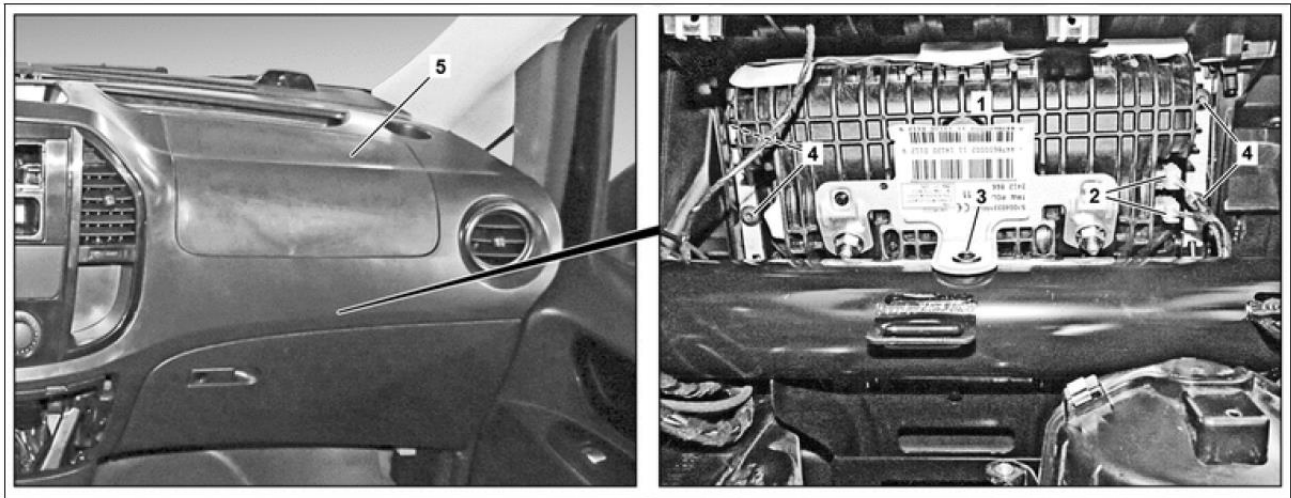
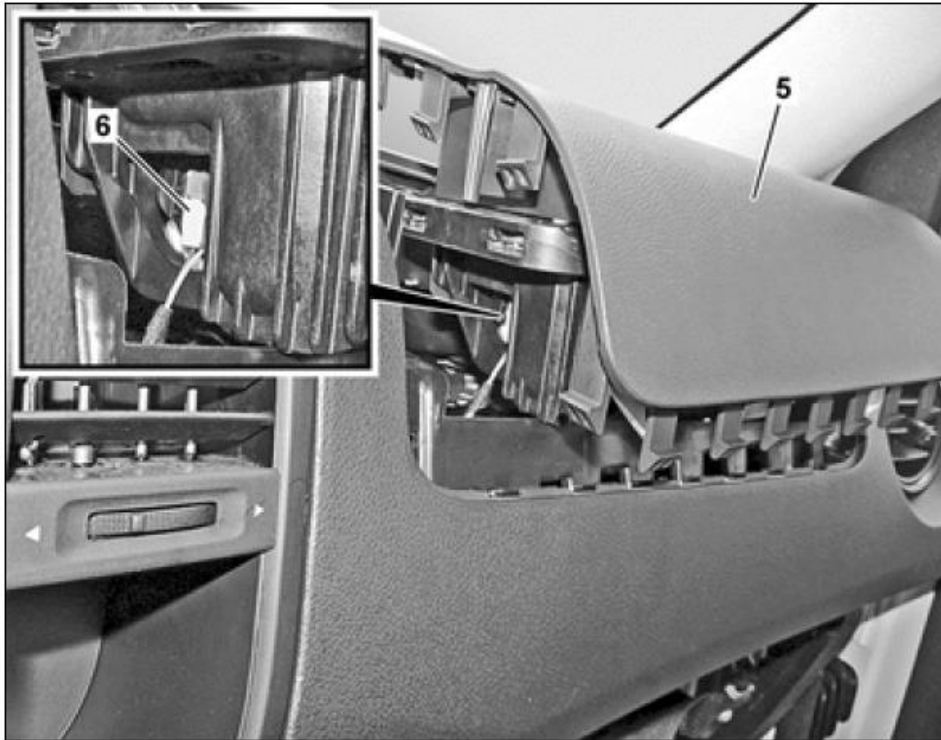
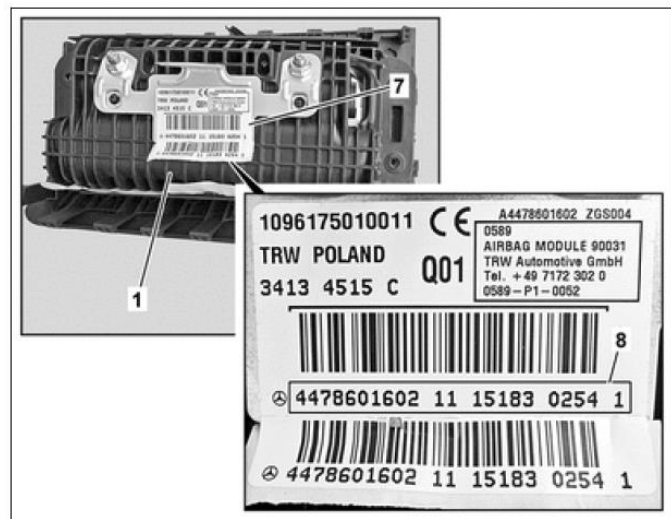

Figure 4 (1 Front passenger airbag 2 Air bag connectors 3 Bolt 4 Air bag mounting bolts 5 Cover)
Figure 5 (5 Cover 6 Electrical connector)
Figure 6 (1 Air bag 7 Label with barcode 8 22 digit characters)
-  Disconnect air bag connectors (2, Figure 4).
-  **Installation note:** Ensure that air bag connectors (2) are correctly locked.
-  Remove air bag bracket bolt (3, Figure 4)
-  **Installation note:** Torque airbag bracket bolt (3, Figure 4) to: **Nm** 4 Nm.
-  Remove air bag mounting bolts (4, Figure 4.)
-  **Installation note:** Torque airbag mounting bolts (4) to: **Nm** 5 Nm
6.  Disconnect electrical connector (6, Figure 5).
7.  Push front passenger airbag (1, Figure 4) with cover (5, Figure 5) upwards out of dashboard and remove.
8. Record 22-digit characters (8, Figure 6) for new front passenger airbag (1) found on adhesive label with barcode (7) prior to installation.
9.  Install new air bag (1, Figure 6) in reverse order.
- Install new front passenger airbag (1, Figure 6) with cover (5, Figure 5).
- New front passenger airbag (1, Figure 6) with cover (5, Figure 5) is supplied as a unit.
- When installing new front passenger airbag (1, Figure 6), check cover (5, Figure 5) is correctly seated in dashboard.
11. Record 22-digit characters (8, Figure 6) found on adhesive label with barcode (7) of new front passenger airbag (1) on repair order.